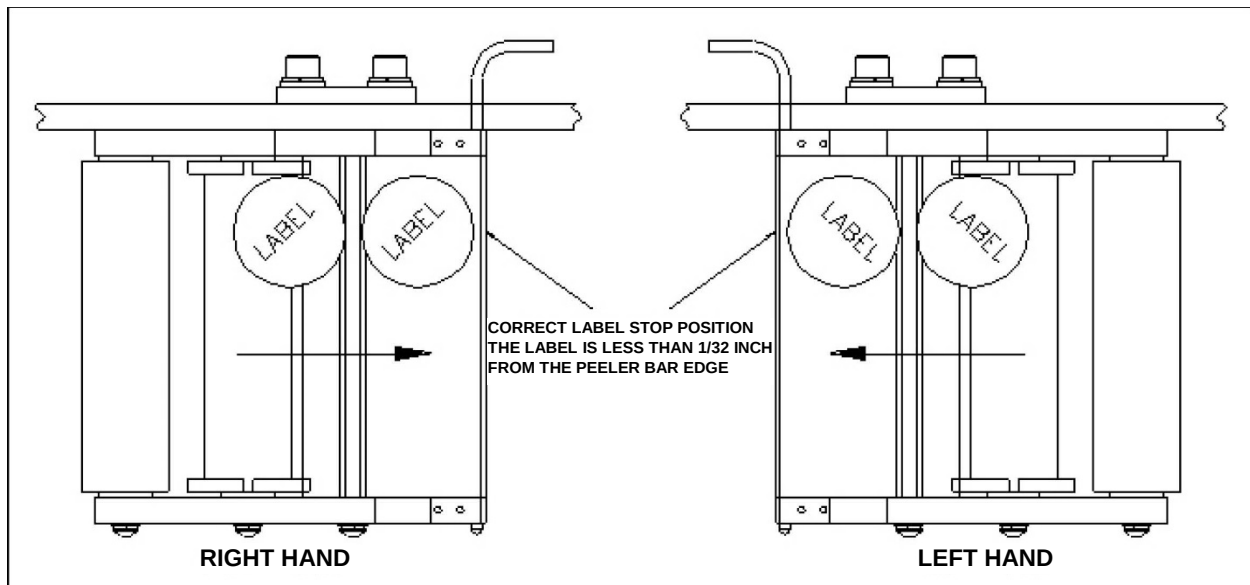

Figure 36 Label Stop Position
3. Check the position of the next label on the peeler bar. The leading edge of the next label should be 1/32 inch (0.8mm) from the end of the peeler bar, and one label should have completely dispensed off of the peeler bar. See Figure 36.